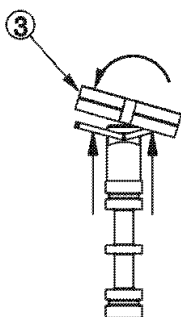

FIG. 3
- Tilt the detent ring (item 3) over one of the legs, and align the groove on the inside of the detent ring with the end of the detent leg. Tilt the other side of the ring down, expanding it slightly, so that the other detent leg snaps into the detent ring groove. See Fig. 3. The completed assembly should look like Fig. 4 (see Figure 4-3).